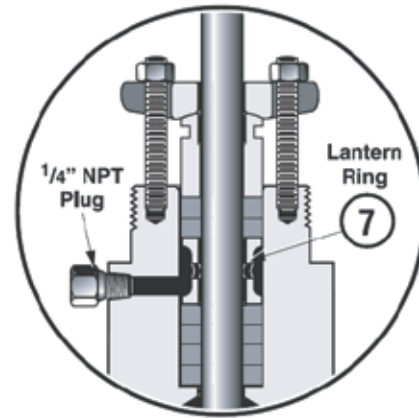

Figure 2: Lubricator Connection (Optional)
Note: On valves equipped with an optional lubricator connection, refer to Figure 2 for correct amount of rings to place under the lantern ring (17).
- E. Replace packing follower (12) and packing flange (13).
F. Replace and tighten packing stud nuts (15).
- L. If a leak detection connection was installed, connect it on the lateral NPT port in the bonnet. If not, insure that the 1/4" NPT plug remained in place (Figure 2).
L. If a leak detection connection was installed, connect it on the lateral NPT port in the bonnet. If not, insure that the 1/4" NPT plug remained in place (Figure 2).